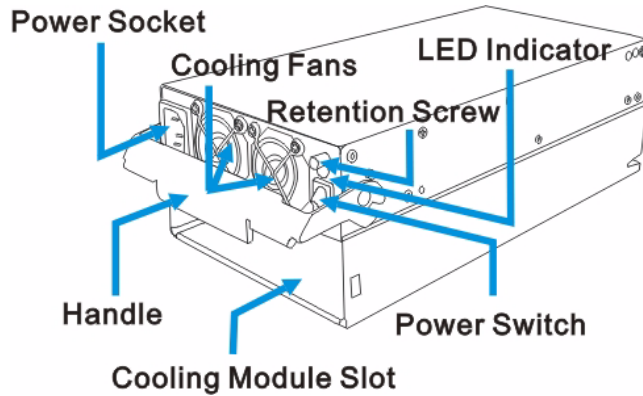

Fig. 2.11 PSU Module
The Li-ION battery backup unit (BBU) (see *Figure 2.11*) sustains cache memory after a power failure. It is installed on the upper left side of the controller module in the rear subsystem chassis.
As shown in *Figure 2.11*, each PSU comes with a single power socket for power cord plug-in, and a power switch on the right to turn the subsystem on and off. Two (2) embedded cooling fans provide sufficient airflow to keep the PSU cool. A single LED indicates the PSU status. When any power supply failure occurs, such as over-voltage or fan failure, the LED shines red. A handle at the back of the PSU has been especially designed to enable you to remove the PSU from the subsystem while the subsystem is online. This should only be done if the PSU has failed and needs to be replaced.